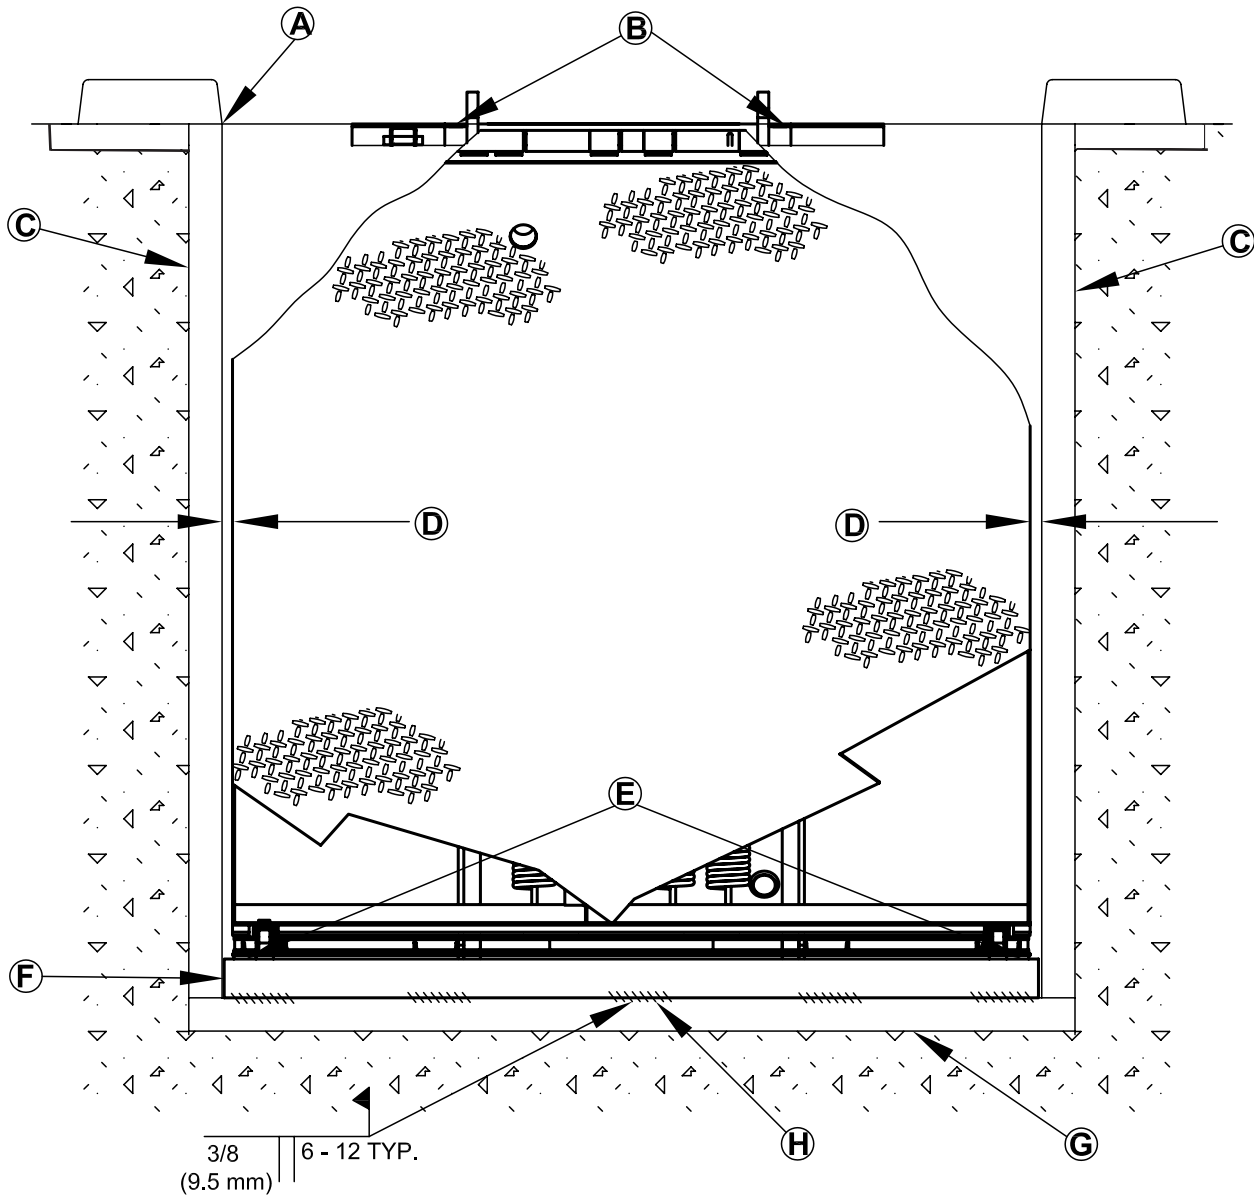

Figure 13
**Note:** Figure 13 shows a typical weld pattern. The weld pattern will vary slightly depending on size of dock leveler.